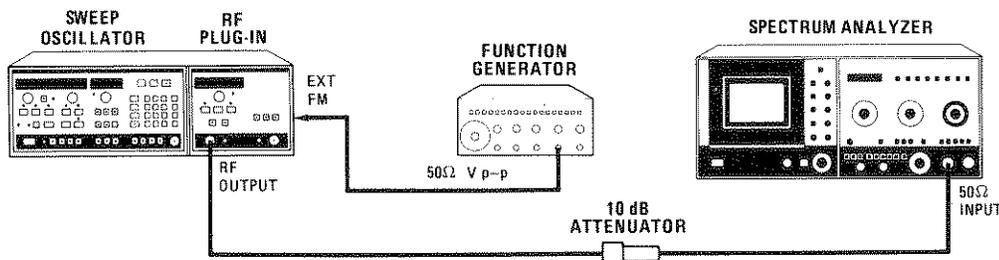

Figure 4-16. 100 Hz External Frequency Modulation Test Setup
1. Ensure that modulation sensitivity is set to -20 MHz/volt and modulation coupling to DC (see Figure 3-10, Configuration Switch). Connect equipment as shown in Figure 4-16.